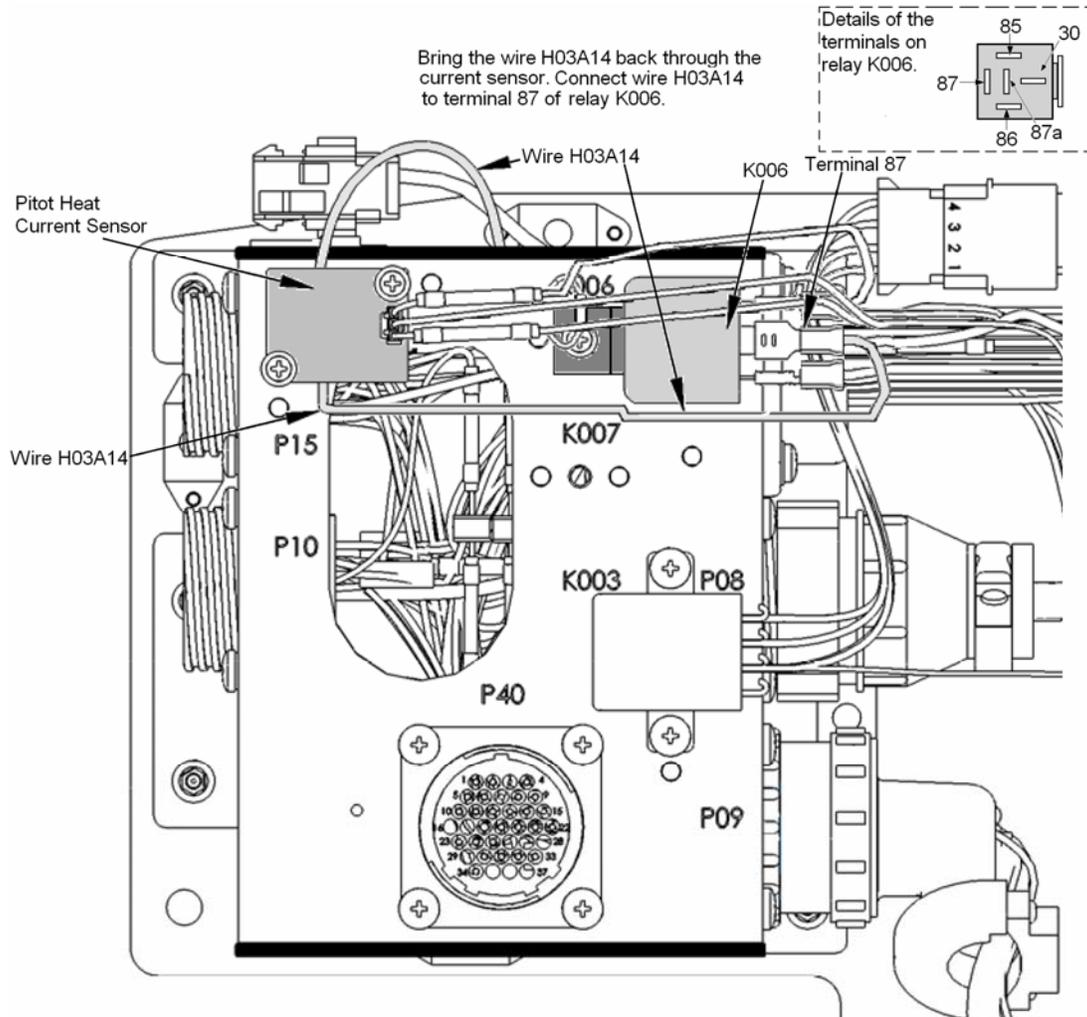

Figure 30-7 Location of the Pitot Heat Current Sensor with Details of Relay K006
11. Connect wire H03A14 to terminal 87 on relay 006. See Figure 30-7 for the details of the location of terminal 87 on relay K006.